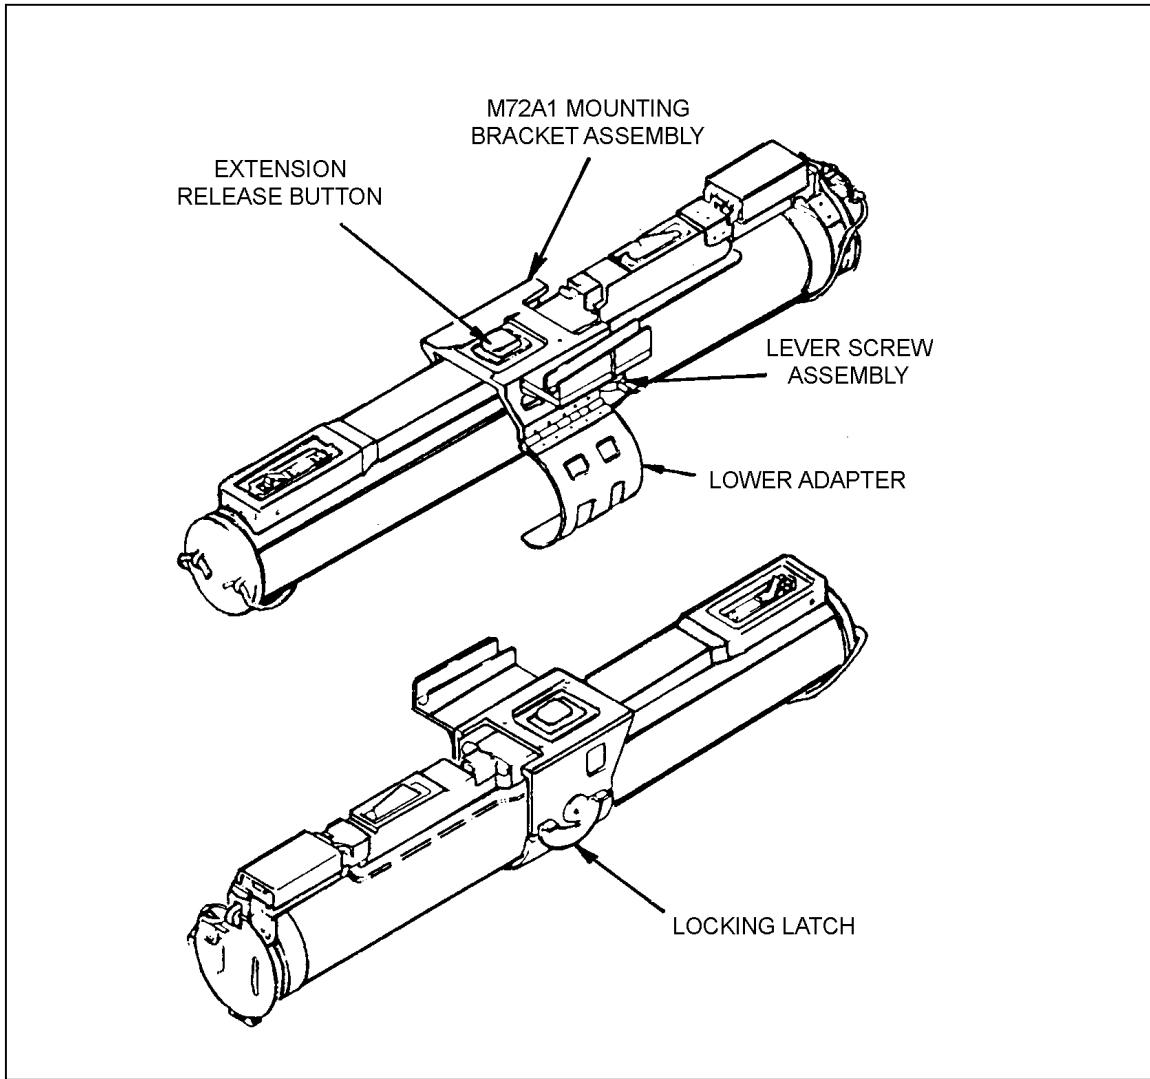

Figure 2-11. Installing M72A1 mounting bracket assembly.
- (1) Place the bracket assembly on top of the rocket launcher (Figure 2-11) so that the square cutout in the top of the bracket fits over the extension release button.
- (2) Swing the lower adapter section up and under the rocket launcher and secure it by turning the locking latch clockwise to fully engage the latch shoulder screw.
- (3) Place the sight in the groove on the bracket and align the threaded screw hole in the base of the sight with the lever screw assembly. Tighten the lever screw assembly firmly.